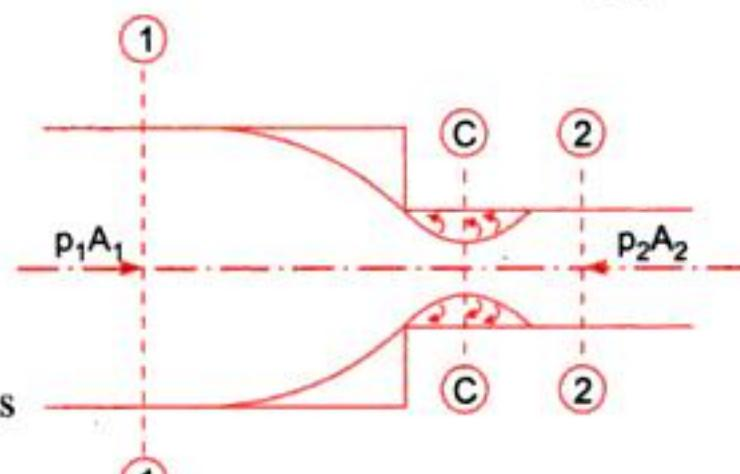

Fig. 11.2 Sudden contraction.
11.4.2 Loss of Head due to Sudden Contraction. Consider a liquid flowing in a pipe which has a sudden contraction in area as shown in Fig. 11.2. Consider two sections 1-1 and 2-2 before and after, contraction. As the liquid flows from large pipe to smaller pipe, the area of flow goes on decreasing and becomes minimum at a section C-C as shown in Fig. 11.2. This section C-C is called Vena-contracta. After section C-C a sudden enlargement of the area takes place. The loss of head due to sudden contraction is actually due to sudden enlargement from Vena-contracta to smaller pipe.